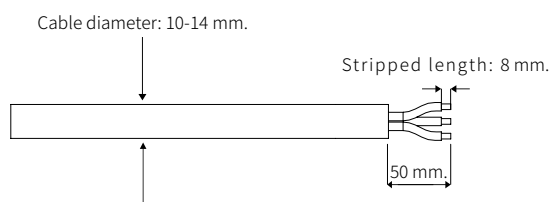

Fig. 27. Cable stripping.
- b. According to the above table, select a suitable cable, remove the insulation sleeve from the AC cable about 50 mm, and remove the insulation from the end of the L/PE/N cables about 8 mm, as shown in Fig. 27: